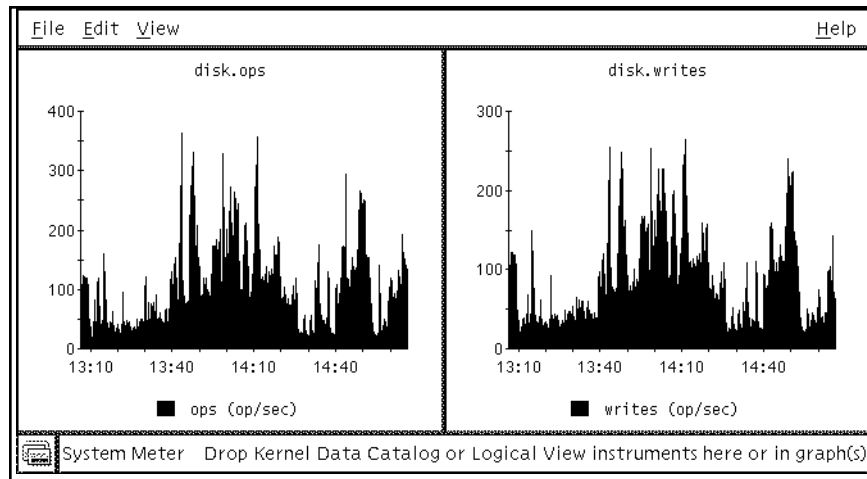

FIGURE 3-19 Displaying Two System Meters in the Same Window
A System Meter window is created with a graph of the selected parameter (FIGURE 3-19).
2. **Select the legend for the desired parameter (for example, `writes (ops/sec)`) and drag it to the footer of the second System Meter window (see FIGURE 3-19).**
2. **Select Delete from the SysMeter Edit menu (see FIGURE 3-19)**
1. **Place the pointer over the legend for the variable (see FIGURE 3-19) and click the left mouse button.**